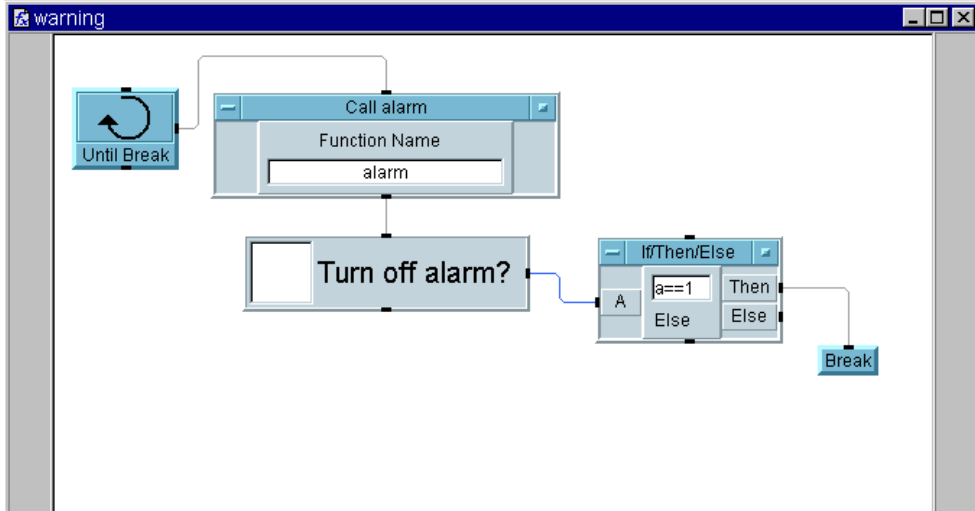

Figure 10-25. The Warning UserFunction (Detail View)
17. Select **Flow** ⇒ **Repeat** ⇒ **Break** and connect it to the **Then** output on the **If/Then/Else** object, as shown in Figure 10-25.